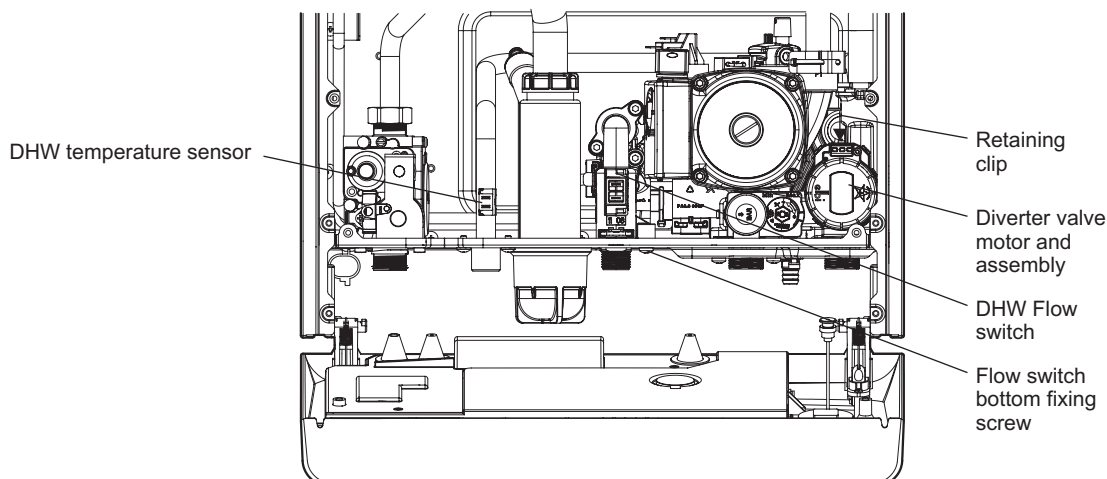

Fig. 32
7.13 DIVERTER VALVE MOTOR - Fig. 32
7.15 DHW TEMPERATURE SENSOR - Fig. 32
7.18 DHW FLOW SWITCH - Fig. 32
7.28 DIVERTER VALVE CARTRIDGE - Fig. 32